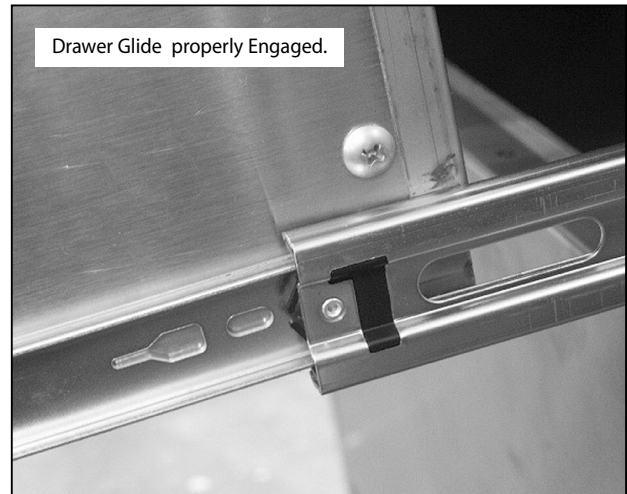

Fig. 11
2. While holding the drawer parallel to the cabinet, carefully align & engage the ends of the glides. Slide the drawer about an inch so that the glides are supporting the back of the drawer (Fig. 11).